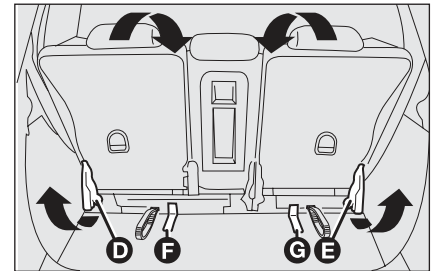

fig. 116
- use levers **D** and **E**-fig. 116 to fold the rear seat backs on the cushions;
- use tapes **F** and **G**-fig. 116 to tilt the seats completely.